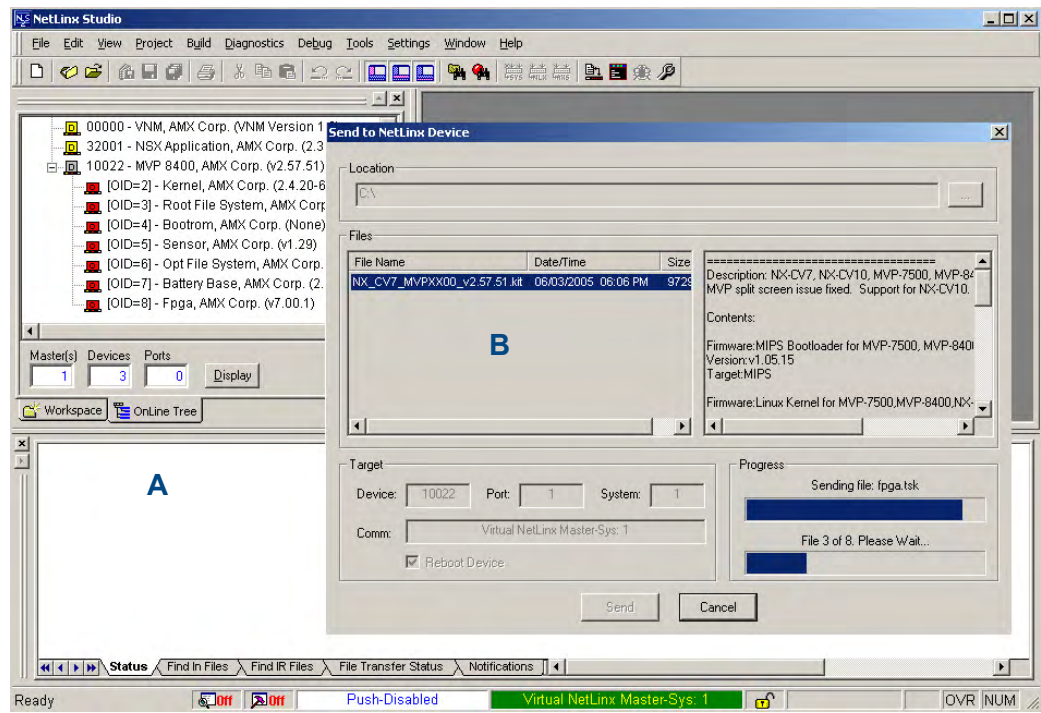

FIG. 73 Using USB for a Virtual Master transfer
7. Select **Tools > Firmware Transfers > Send to NetLinx Device** from the main menu to open the *Send to NetLinx Device* dialog (B in FIG. 73). Verify that the panel's System and Device number values match those values listed within the System folder in the **OnLine Tree** tab of the Workspace window (A in FIG. 73).
11. Click **Send** to begin the transfer. The file transfer progress is indicated on the bottom-right of the dialog (B in FIG. 73).